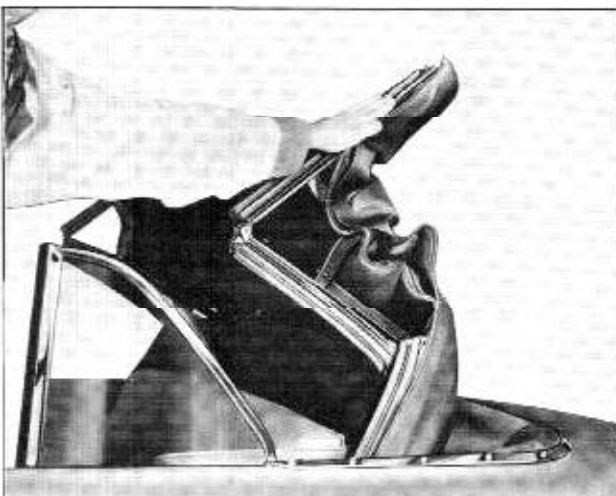

Fig. 15-66 Top Partially Lowered
5. As the top approaches mid-point of travel, tension is relieved from the assist springs. Exert downward pressure on the exposed surface of the side rail front section until top is approximately 12 inches from full down position. (Fig. 15-66)